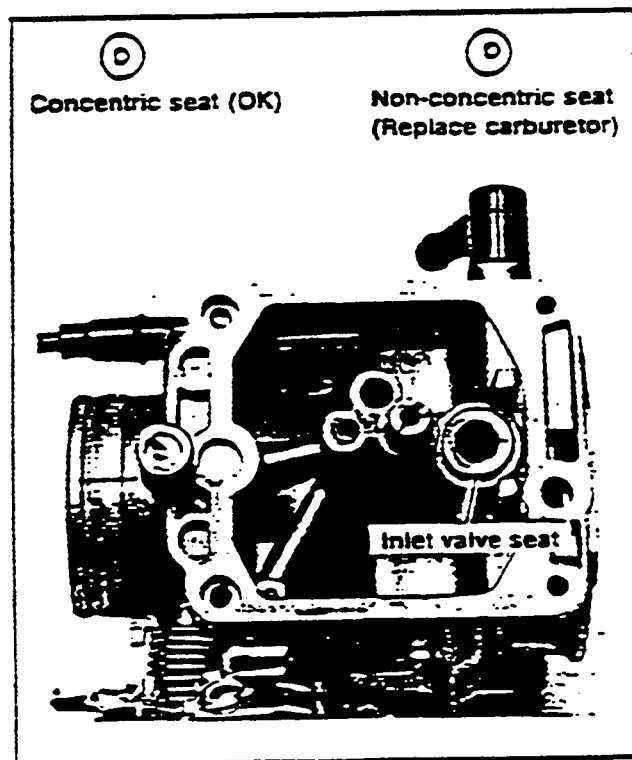

Figure 4. Bottom View Of Carburetor
6. See Figure 4. Visually inspect the inlet valve seat to verify that the small hole in the seat is concentric (centered) with the large hole. Also visually verify that the chamfer on the small hole matches the taper of the inlet valve (needle).